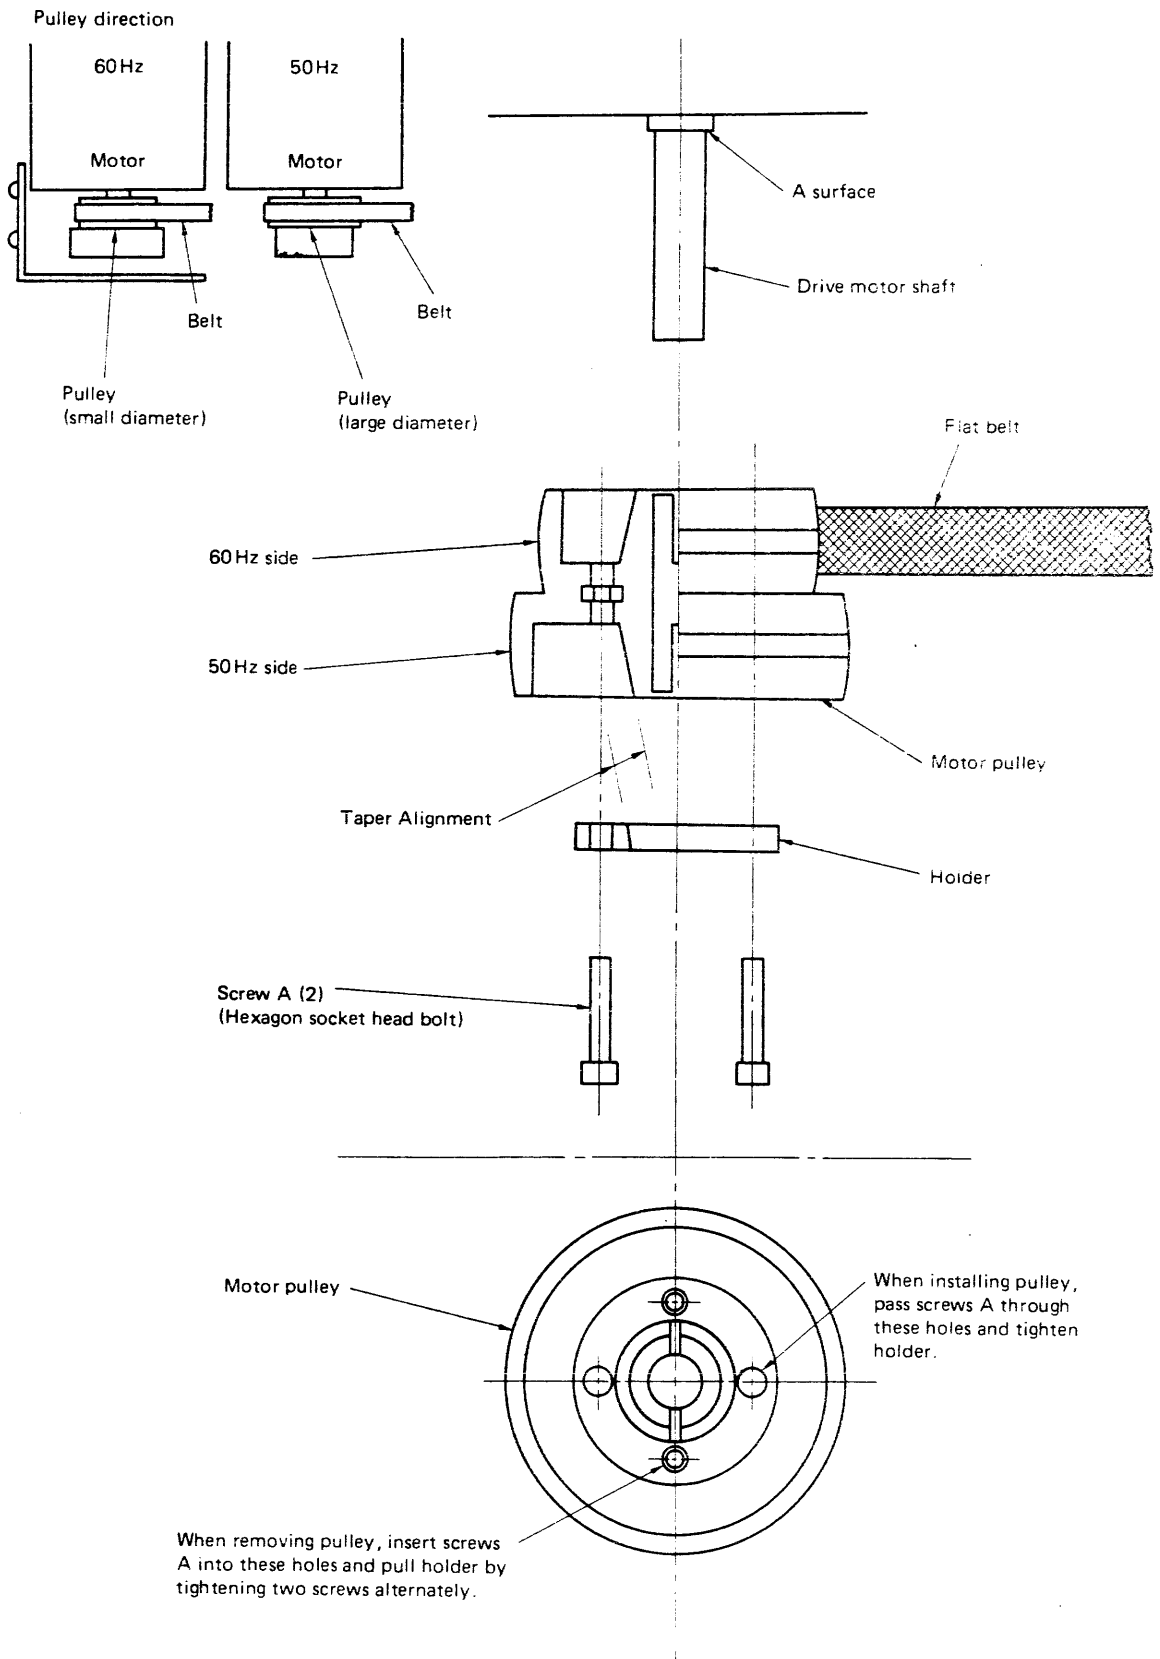

Figure 6-5-4 Motor Pulley Replacement
Refer to Figure 6-5-4.
- (1) Remove belt in accordance with paragraph 6.5.4.
- (2) Loosen and remove two screws A.
- (3) Insert removed screws A into screw holes in holder, and remove the holder by tightening screws alternately.
- (4) After removing holder, remove pulley from motor shaft. See Figure 6-5-4.